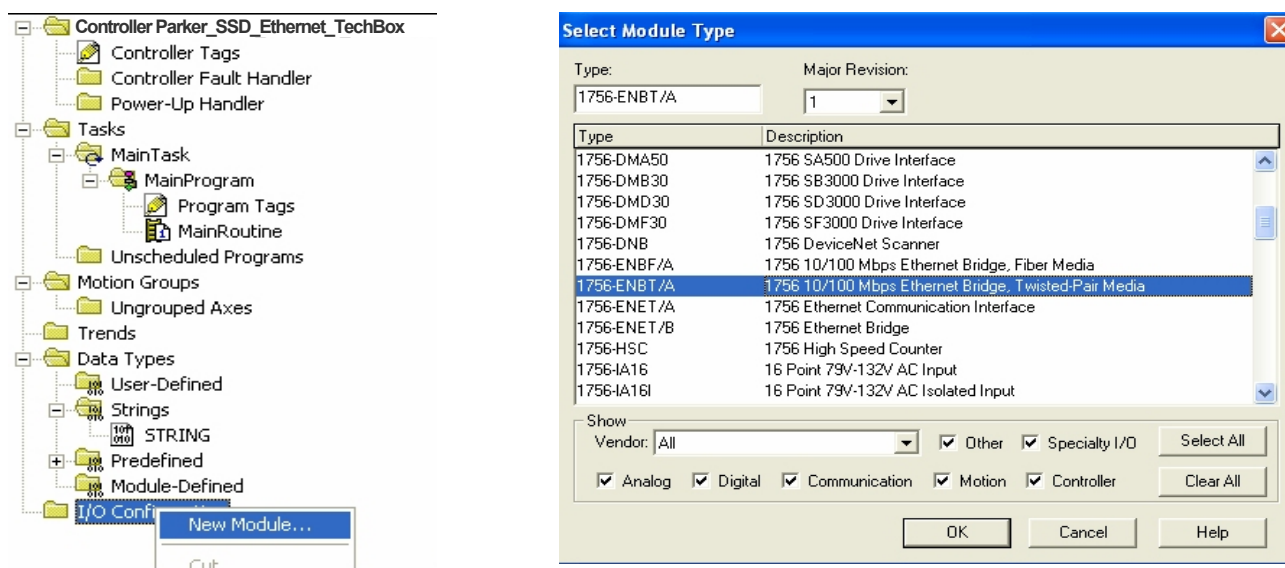

Figure 9. Ethernet Interface Selection
10. Using the I/O Configuration insert the Ethernet interface that will be installed. Right click on the I/O Configuration, select New Module. Our example uses 1756-ENBT/A. Input the desired IP address and slot in the PLC. Refer to Figures 9 and 10.